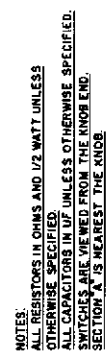

Figure 3-1. Amplifier Schematic Wiring Diagram
3-15. DESCRIPTION OF AMPLIFIER ELECTRICAL CIRCUITS. (See figure 3-1.)
3-16. GENERAL. The amplifier is designed to deliver 8 watts of audio power at less than 2% distortion from 100 to 6000 cycles per second into the speaker load with an input signal of 0.40 volts into the photo cell input J201. A reserve gain of 20 decibels is provided for reproduction of incorrectly recorded sound tracks. The operation of the amplifier is described in paragraphs 3-17 through 3-30, following, with reference to figure 3-1.
b. All voltage and resistance readings are to be made between circuit ground and voltage point referred to on amplifier schematic wiring diagram, figure 3-1.
The following data serves to clarify the voltage data given on the amplifier schematic diagram, figure 3-1.